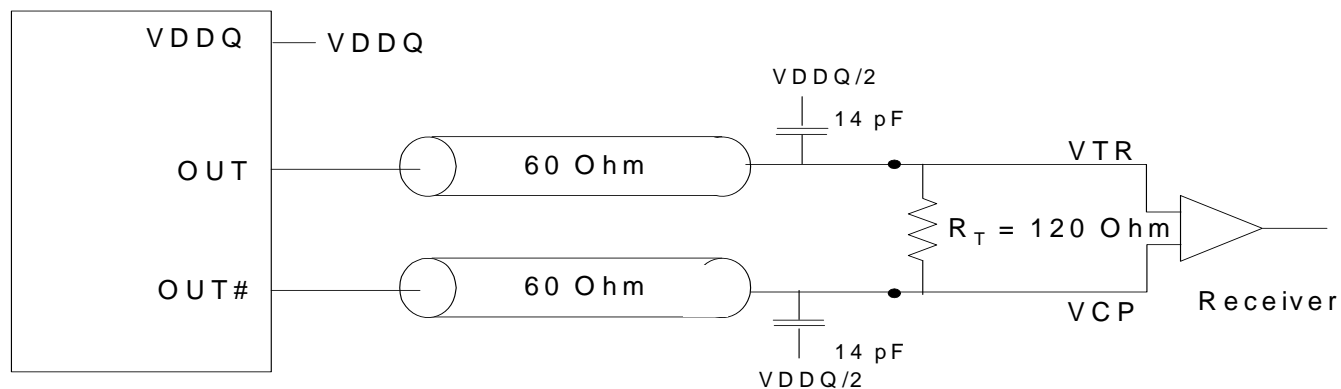

Figure 6. Differential Signal Using Direct Termination Resistor
- Differential input signal voltage specifies the differential voltage $V_{TR} - V_{CP}$ required for switching, where V_{TR} is the true input level and V_{CP} is the complementary input level. See Figure 6.
- For load conditions see Figure 6.
- The value of V_{OC} is expected to be $(V_{TR} + V_{CP})/2$. In case of each clock directly terminated by a 120 Ω resistor. See Figure 6.
- All outputs switching load with 14 pF in 60 Ω environment. See Figure 6.